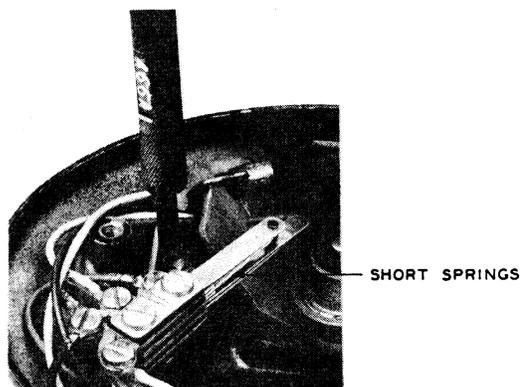

FIG. 4B — SHORT SPRING CONTACT ADJUSTMENT
3.08 On short springs, the 466A tool should be applied close to the spring pile-up, bending slightly (see Fig. 4B).